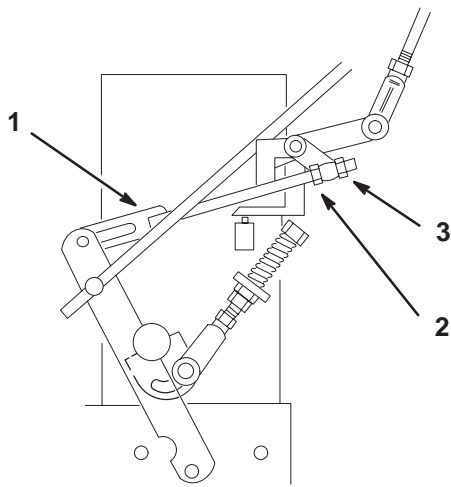

Figure 42
5. Loosen the front nut on left hydro control linkage as shown in figure 42.
6. Turn the left rear adjusting nut counter-clockwise until wheel rotates forward (Fig. 42).
7. Turn the rear adjusting nut clockwise 1/4 of a turn at a time. Then move the speed control lever forward and back to neutral. Repeat this until left wheel stops rotating forward (Fig. 42).